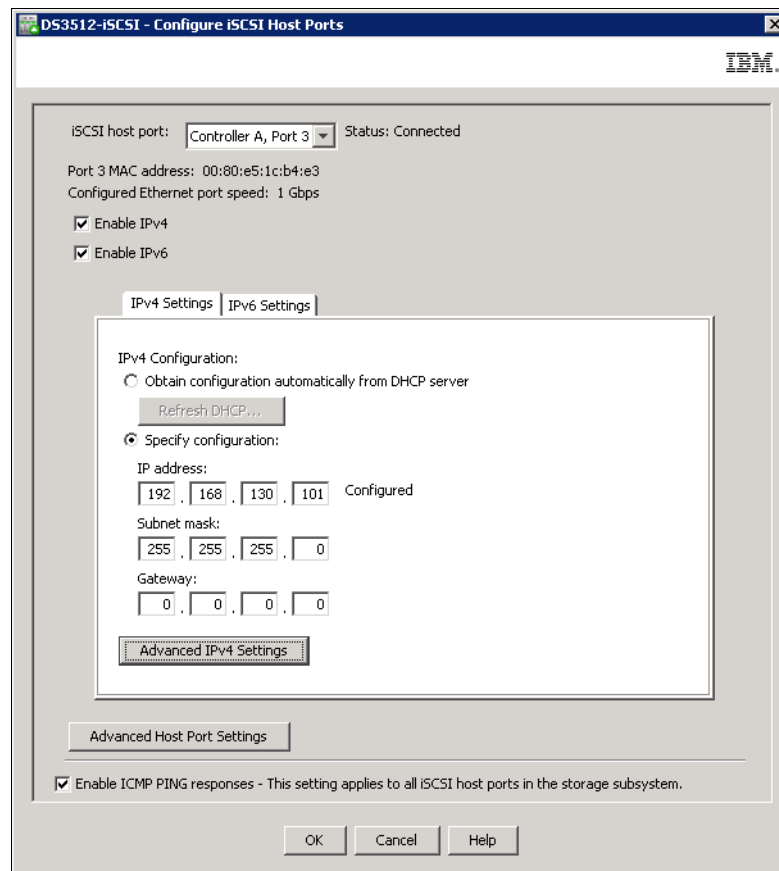

Figure 13-8 Configure iSCSI Host Ports
The Configure iSCSI Host Ports task (see Figure 13-8 on page 318) is activated by clicking **Storage Subsystem** → **iSCSI** → **Configure Host Ports**. This task can also be activated from the Setup tab, and from the Physical tab if any controller is selected. It is used to configure the network settings of the four iSCSI host ports on each controller. IPv4 or IPv6 addresses can be used along with native VLANs. Careful network planning must be done before the setup can be performed.
1. Click **Storage Subsystem** → **iSCSI** → **Configure Host Ports**. A window opens as shown in Figure 13-8. Our example window shows an active IPv4 configuration with the default IP address for the iSCSI port.
8. In bottom part of the Configure iSCSI Host Ports window (Figure 13-8 on page 318), you have the option to disable ping (ICMP echo) requests for all iSCSI host ports. A reset of all ports is required to apply this setting.